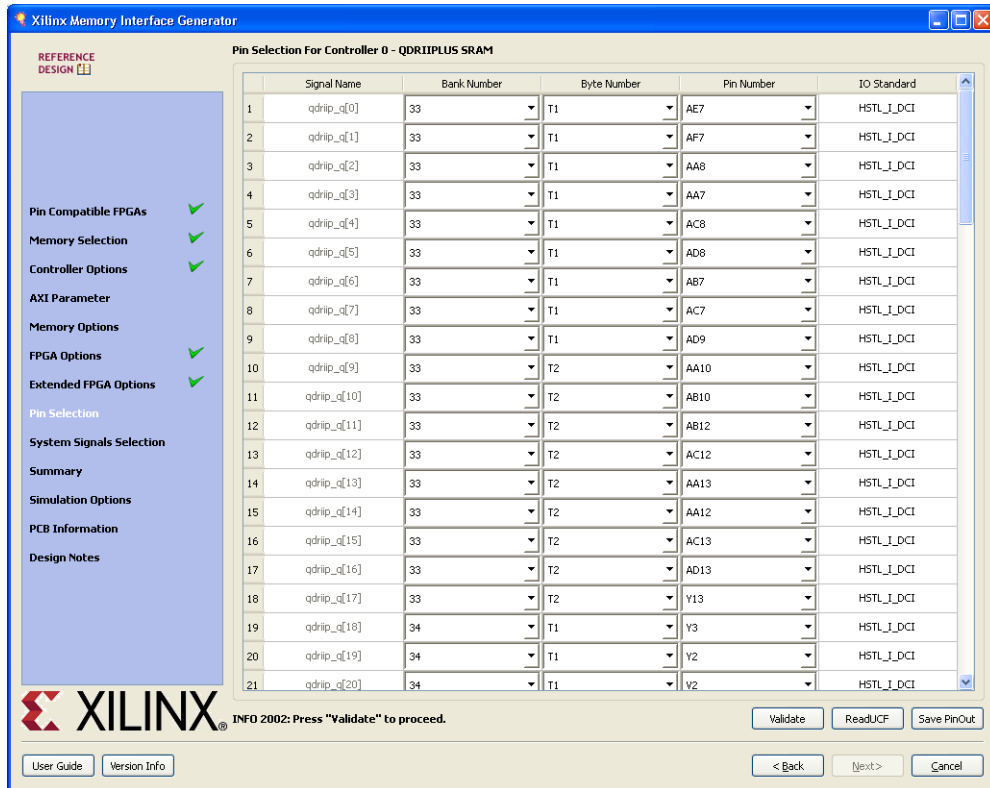

Figure 2-24: Pin/Bank Selection Mode
- **Pin/Bank Selection Mode** – This allows you to specify an existing pinout and generate the RTL for this pinout or pick banks for a new design. Figure 2-24 shows the options for using an existing pinout. You must assign the appropriate pins for each signal. A choice of each bank is available to narrow down the list of pins. It is not mandatory to select the banks prior to selection of the pins. Click **Validate** to check against the MIG pinout rules. One cannot proceed until the MIG DRC has been validated by clicking **Validate**.